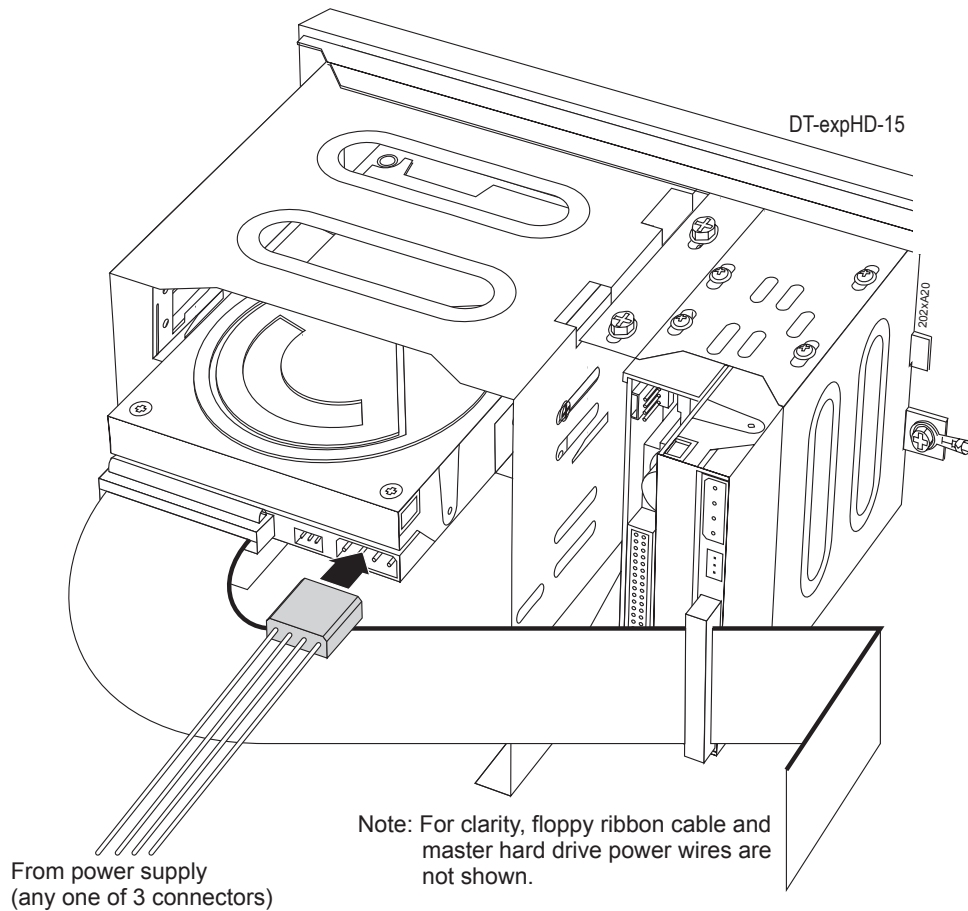

Figure 14
17. Select one of the three **available** (extra) power supply connectors and connect the power supply to the expansion hard drive. See Figure 14.